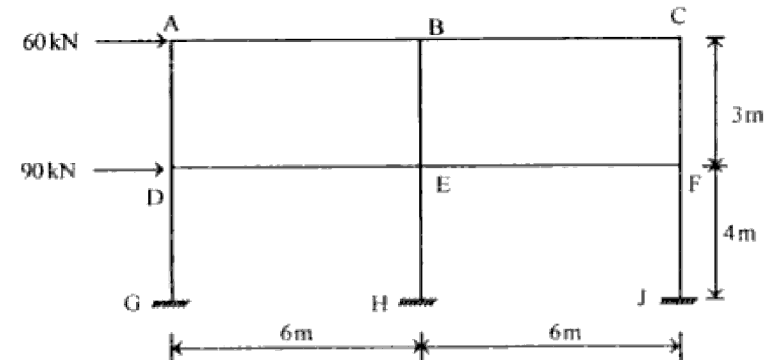

Figure .1
b) Find bending moment, shear force and axial force in Beam EF and Column EH using portal method (Fig. 1) 10